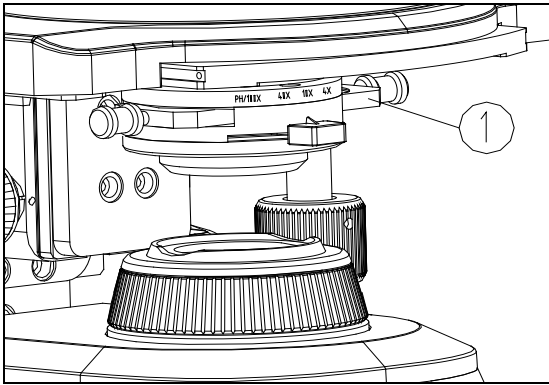

Fig. 39
When observing a fluorescence slide, pull or push the fluorescence shutter ① to the left until it connects with the detent indicating you have reached the fluorescence observation position (see Fig. 39). The transmitted illumination path is now totally blocked. Turn off the transmitted light adjustment knob.
- ★ For transmitted illumination observation, pull the fluorescence shutter ① to the right side to completely open the transmission illumination path.